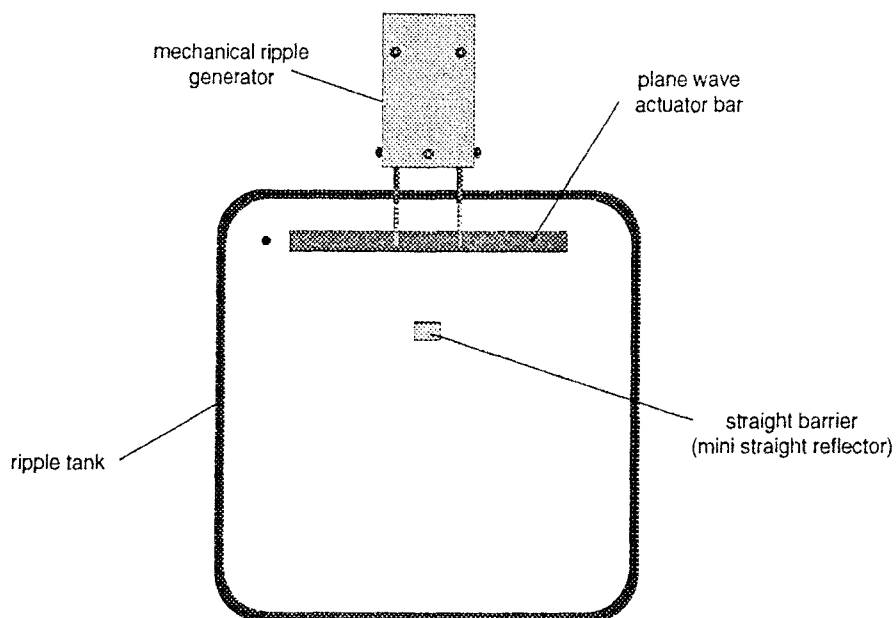

Figure 3.2: Diffraction for a Solid Object
- ⑥ Replace the slit with the mini straight reflector. Remove the two long straight reflectors. See Figure 3.2.